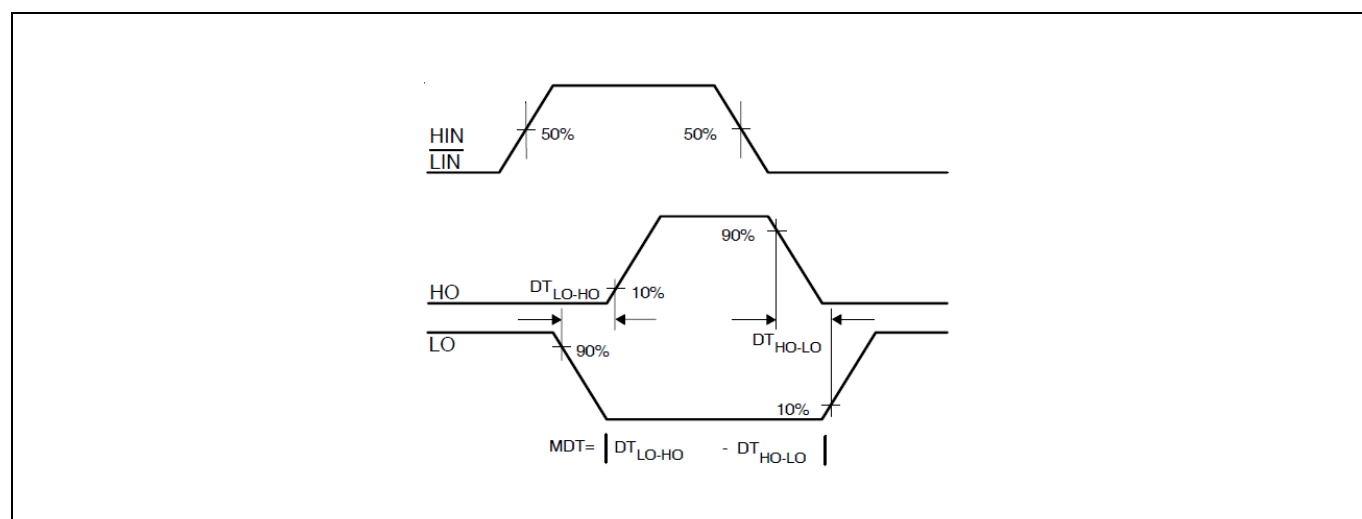

Figure 8 Deadtime matching waveform definition
The deadtime circuitry of 2ED2108 (4) S06F (J) is matched with respect to the high- and low-side outputs. Figure 8 defines the two deadtime parameters (i.e., DT_{LO-HO} and DT_{HO-LO}); the deadtime matching parameter (MDT) associated with the 2ED2108 (4) S06F (J) specifies the maximum difference between DT_{LO-HO} and DT_{HO-LO} .